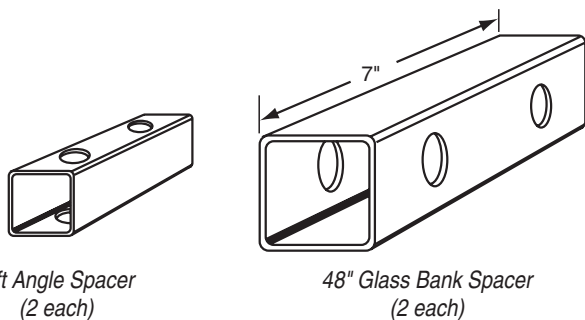

Figure 7
- 1 Locate Lift Angle from the board mounting kit (see Fig. 7).